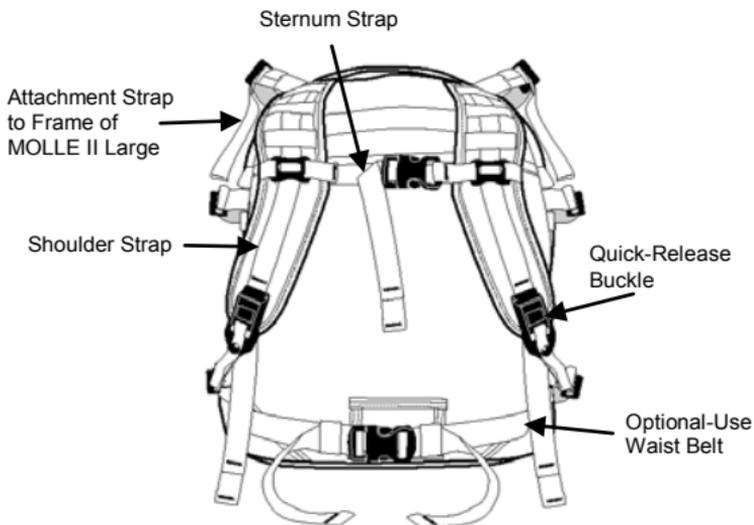

Figure 2. Assault Pack, Rear View.
1. Place the assault pack (Figure 2) on back by inserting arms through shoulder straps.